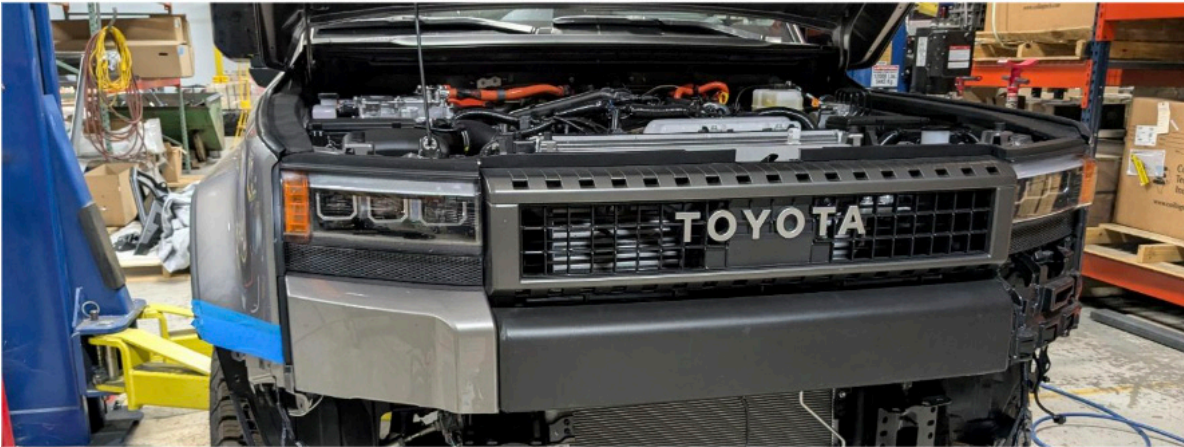

Figure 49.
40. Reinstall the fog light facias to the driver and passenger side of the grille structure. Reinstall the assembled grille to the vehicle by reversing the steps used to remove it. Figure 49.